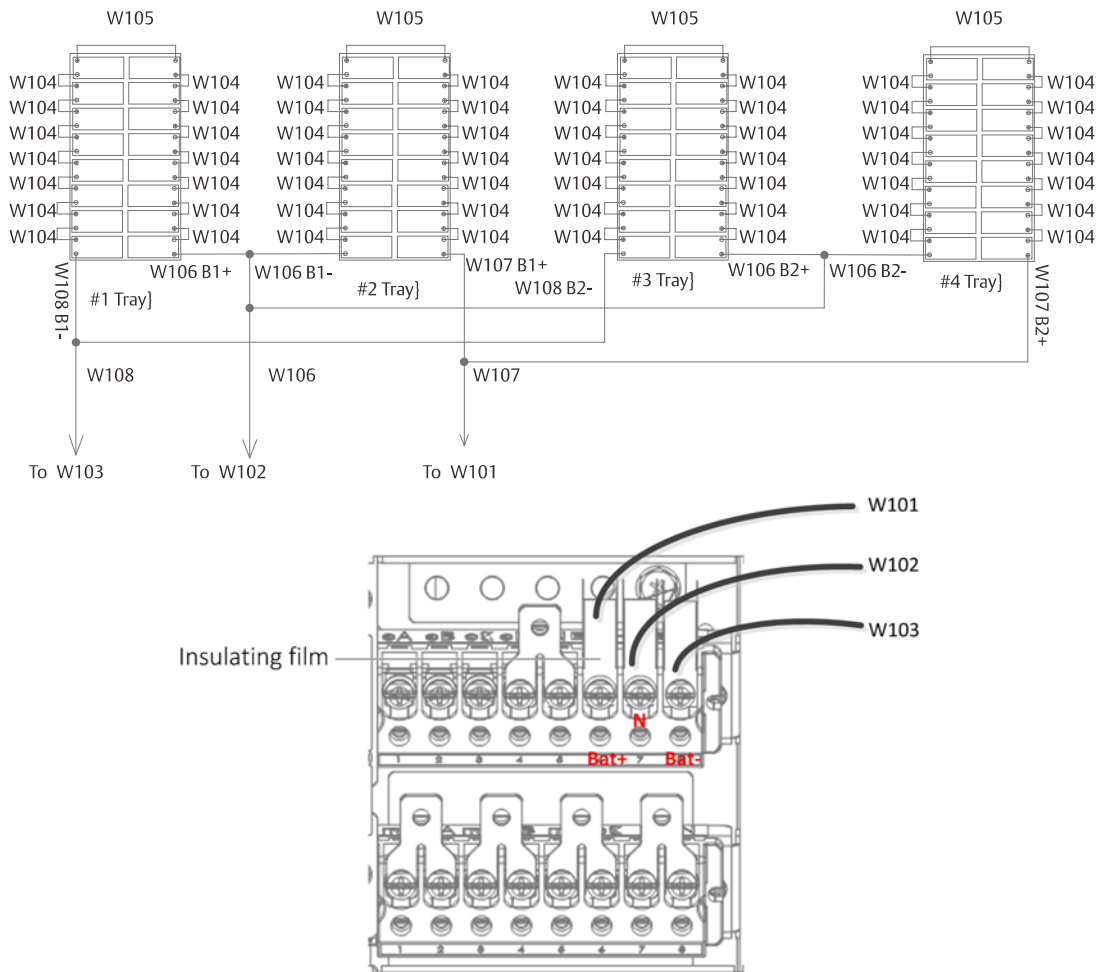
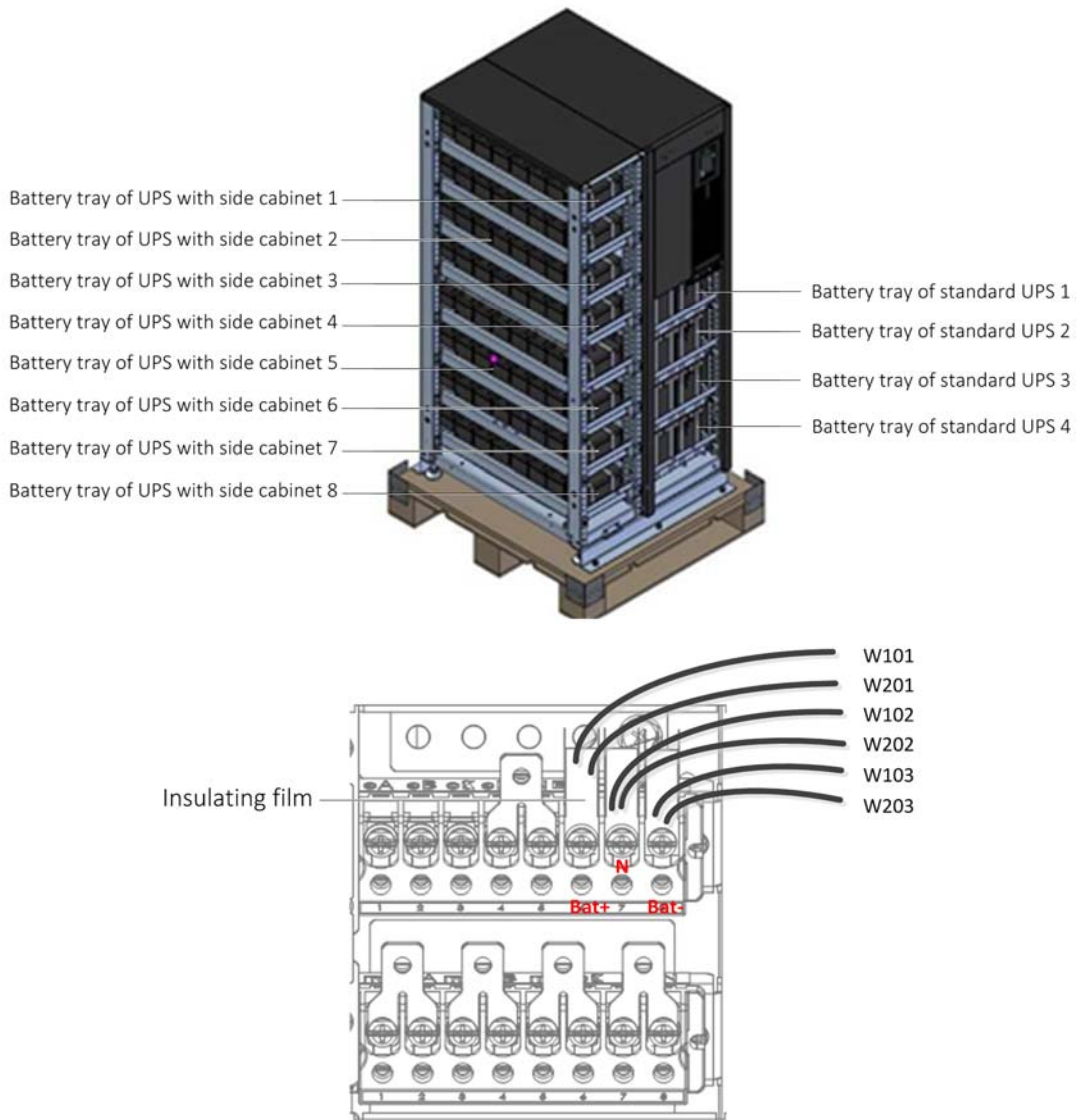

Figure 8-2 Installing standard UPS internal batteries
Figure 8-4 Installing battery trays and cable connections
- b) Remove the four battery accessory trays and position the batteries on them as shown in Figure 8-2, then connect cable W104 and cable W105.
- c) Insert four battery trays into the battery compartment (from bottom to top, see Figure 8-4). Connect cables W106, W107 and W108 as shown in Figure 8-2, then use the screws (accessories) to secure the battery trays.
b) Remove the four battery trays for the standard UPS (accessories) and install batteries on their respective trays. Connect cable W104 and cable W105, insert the four battery trays into the battery compartment (from bottom to top, see Figure 8-4). Connect cables W106, W107 and W108 as shown in Figure 8-2, then use the screws (accessories) to secure the battery trays.
b) Remove the eight battery trays for the UPS with side cabinet (accessories), and install batteries on their respective trays. Connect cable W204, insert the eight battery trays into the battery compartment (from bottom to top, see Figure 8-4). Connect cables W205, W206, W207 and W208, then use the screws (accessories) to secure the battery trays.